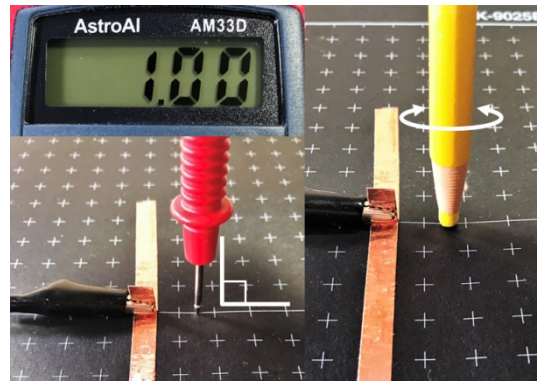

Fig. 10: Check the voltage near the negative strip to find a point where the voltage is +1.0 V. Mark that location with the yellow china marker.
1. Search with your red probe on the conductive paper near the negative conductor (0V) and find a location where the voltage is +1.0 V. The probe reads most accurately when pressed straight down onto the paper rather than at an angle. Mark that location with the yellow china marker (see Fig. 10).